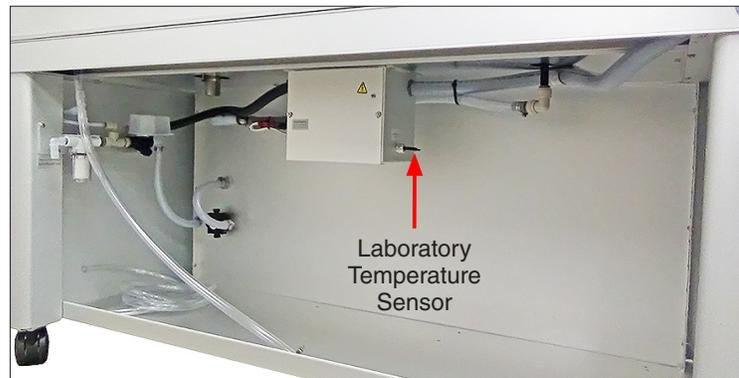

Figure 10.2: QUV laboratory temperature sensor location. QUV/spray model shown, sensor location the same in all other models.
- The laboratory air temperature sensor is mounted on the fan enclosure in the base of all QUV models (Figure 10.2).